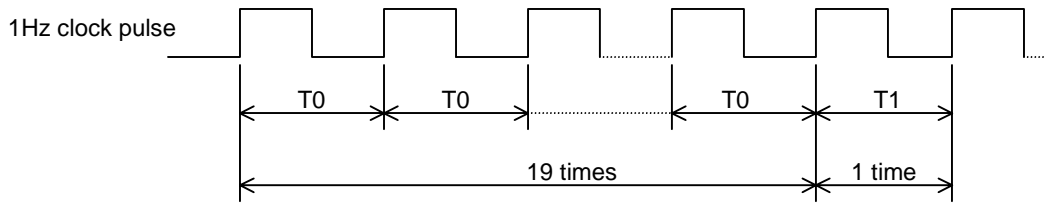

Fig.4
(2) After setting the oscillation adjustment register, 1Hz clock period changes every 20seconds like Fig. 4.